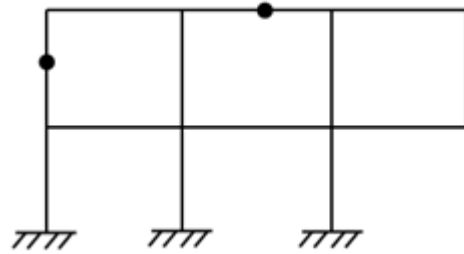

Figure 3 [Q-4 (b) (ii)]
- ii) Calculate Static Indeterminacy and Kinematic Indeterminacy for the following plane frame. **Refer figure 3.** [02]